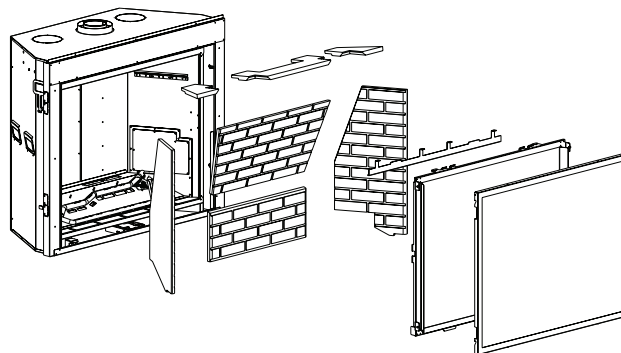

Figure 6
1. Remove the following items. See Figure 6.
9. Replace Glass Frame, Screen Barrier, and liners removed in Step 1, **Figure 6**.